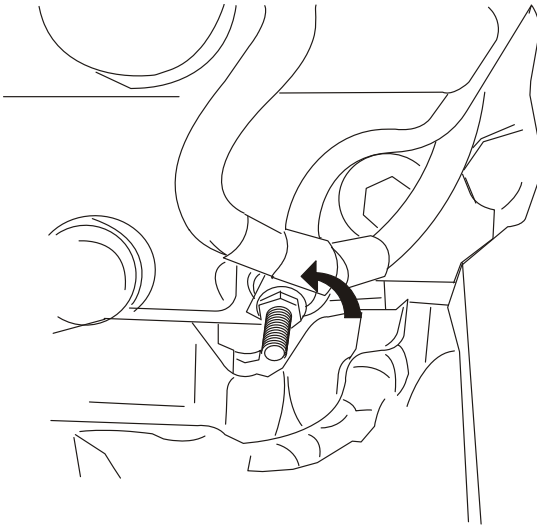

Figure 4.4
- Loosen the clip securing the OEM plastic oil tube to the valve cover. Rotate the clip approximately 90 degrees counter-clockwise (Figure 4.4) so that the tube will clear the compressor. Tighten the clip in that position.